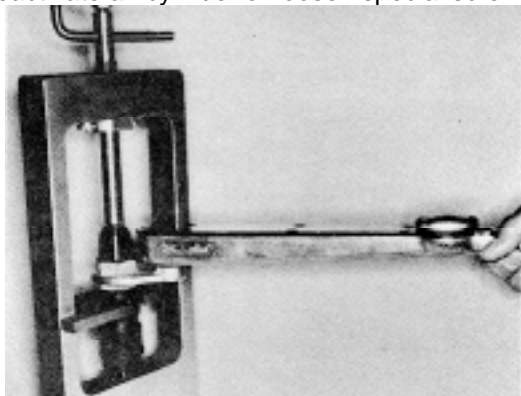

Fig. 6-1-9, F60197. Loosening cup retainer
7. Activate air cylinder or tighten special screw to hold injector in place. Loosen cup retainer but do not remove. Fig. 6-1-9.